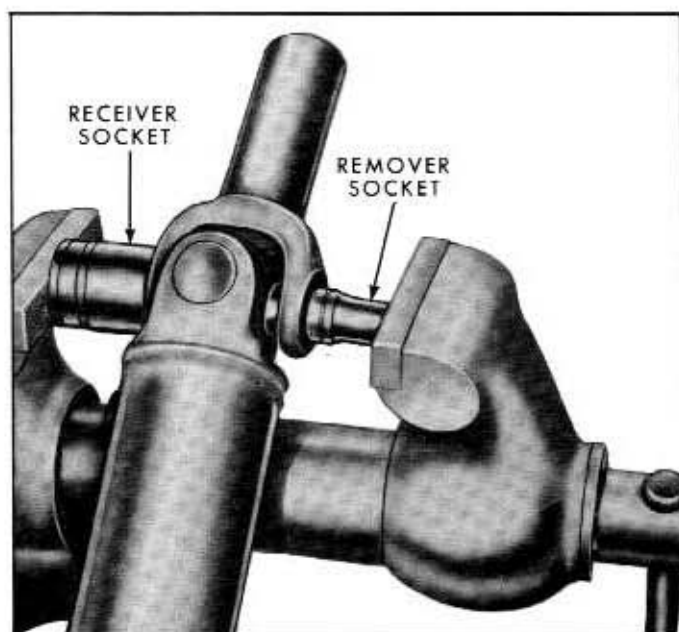

Fig. 4-5—Universal Joint Removal—(60C-804)
4. Place the "U" joint in a vise or under a press. See figure 4-5.